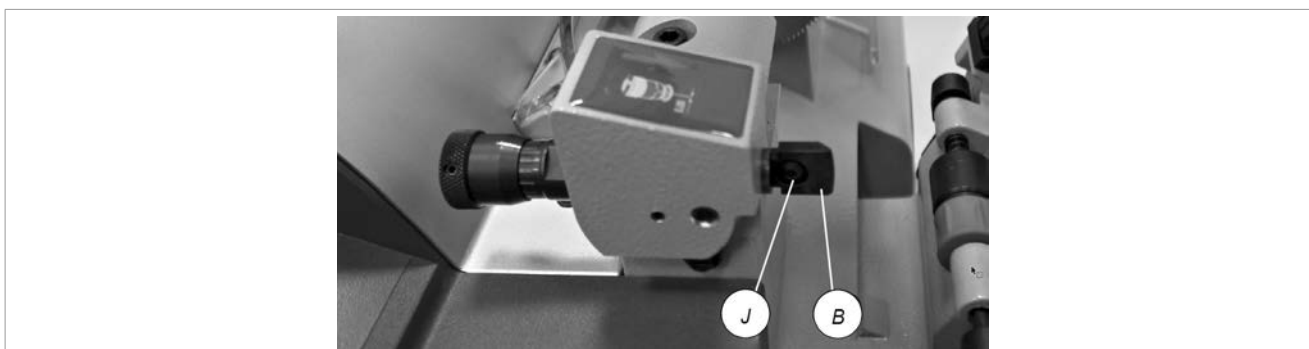

Fig. 27
- 2) Loosen and remove the screw (J) and remove the tracer point (B) (Fig. 27).
- 3) Place the new tracer point in position and fix with the screw (J).